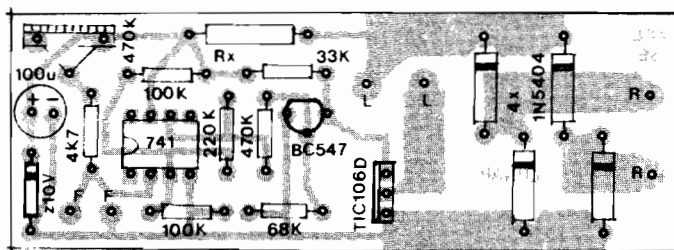

Fig.3
**- FIG. 3 - "CHAPEADO" DA MONTAGEM**